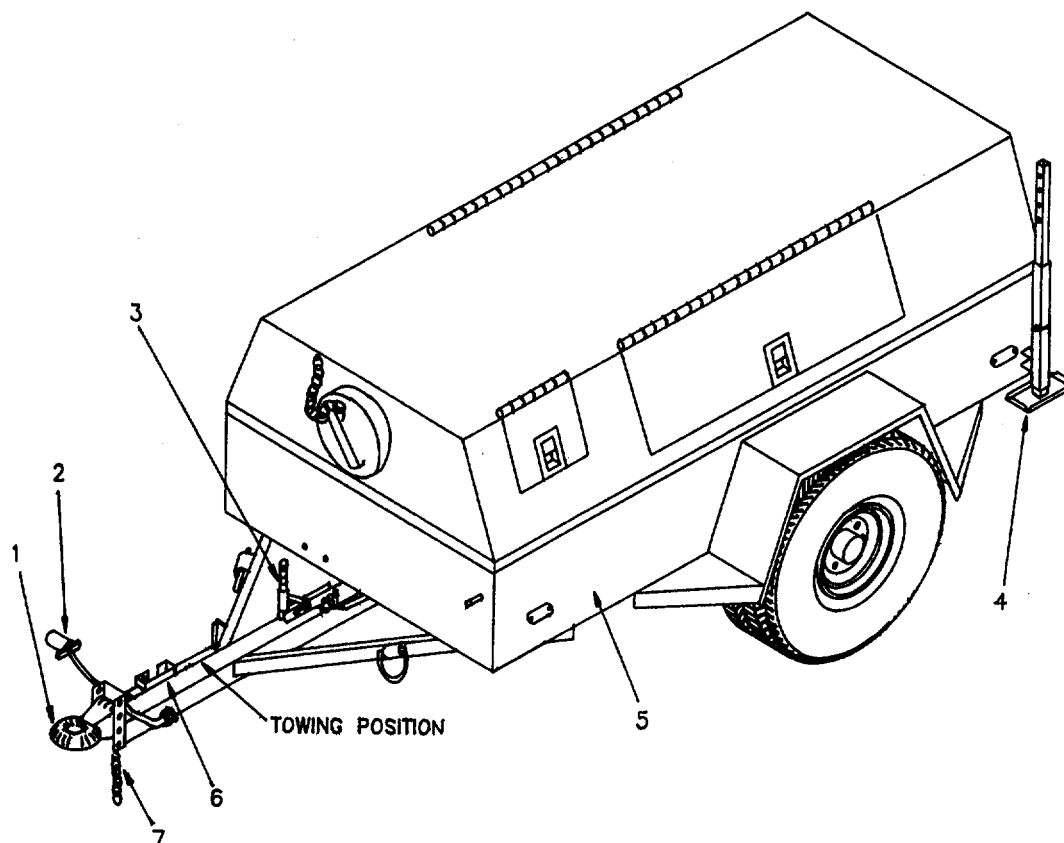

Figure 2-19. Trailer Base. Towing.
- a. Hook up drawbar coupler (1, Figure 2-19) to towing vehicle. Back towing vehicle to trailer base and position it for coupling. Raise tongue to engage drawbar coupler or couple trailer base to towing vehicle. Use leveling-support jack (6) to lift or lower trailer base (5).
- b. Retract leveling-support jack (6) to towing position.